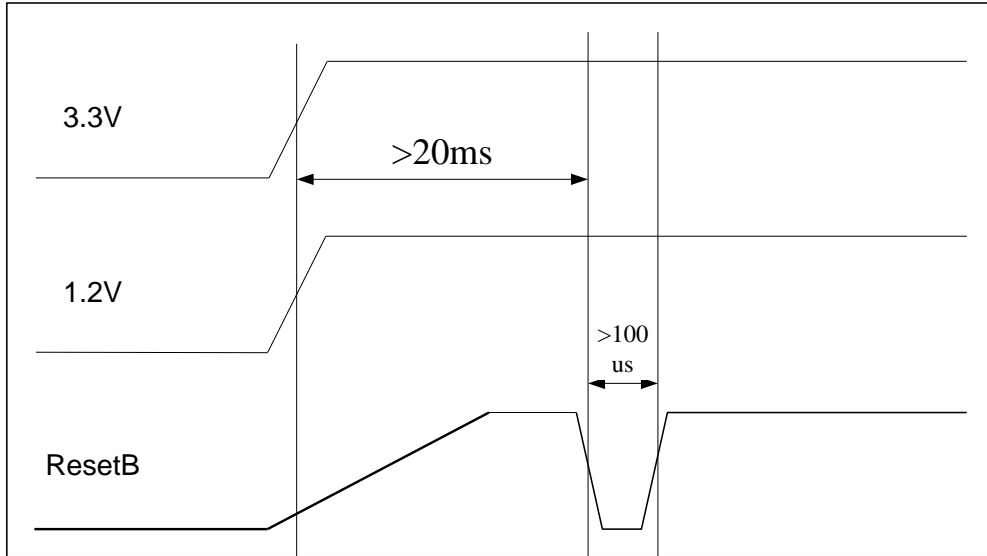

Figure 5: Power-on Reset Function's Sequence external global reset
2. RB signal is generate by system global reset. In this case, the power supply should be valid and stable for at least 20ms before the reset signal is valid. The pulse width of valid reset signal should be at least 100us. Otherwise, the chip can’t work well. The timing is shown in **Figure 5**.